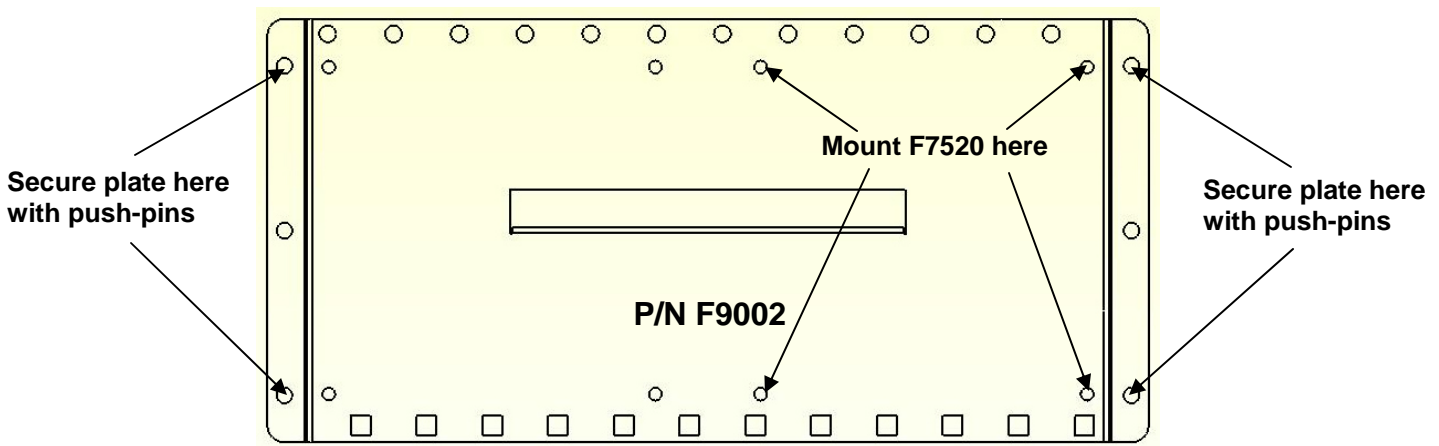
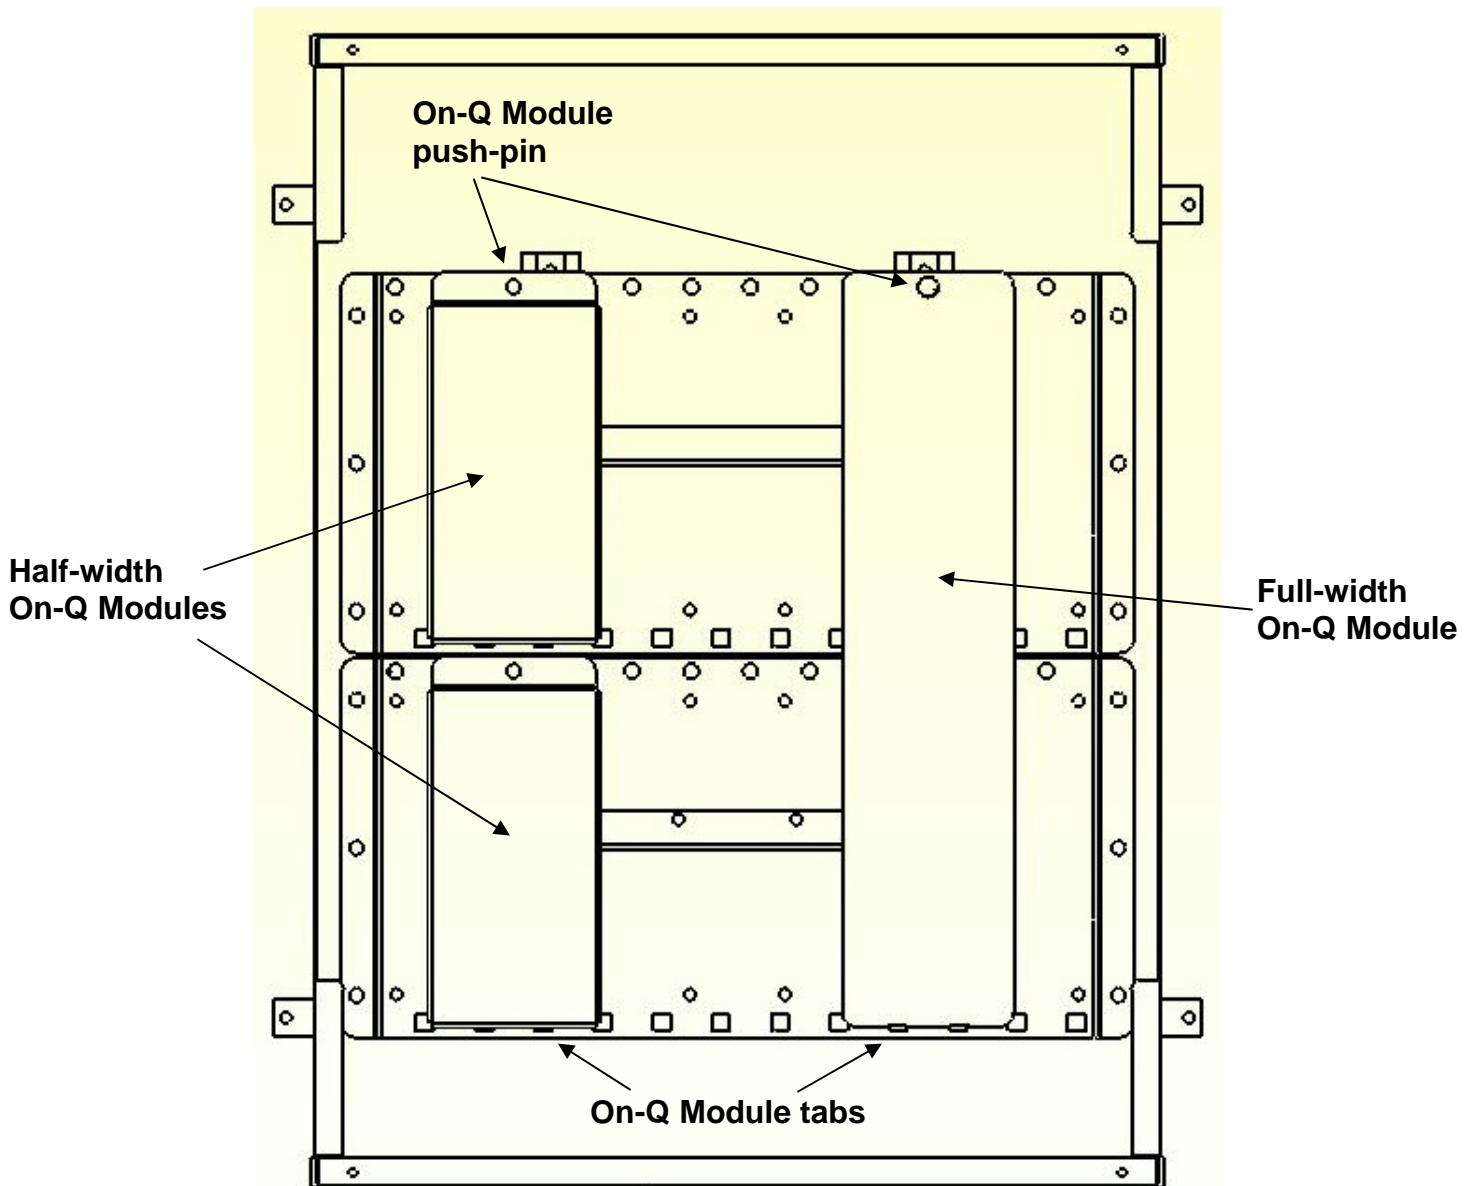

Figure 1
Figure 2
The On-Q Module to GF Mounting Plate, (see **Figure 1**) is designed to be mounted in a Foxbox or Titan enclosure with multiple push-pins (typically at each corner). On-Q half-width modules can then be mounted in a vertical orientation (90° counter-clockwise rotation), inserting the tabs into the square holes along the bottom edge of the plate and using the locking tab/s (push-pin/s) at the other end of the module in the round holes along the top edge of the plate. If full width On-Q modules need to be supported, an additional plate may be mounted directly above or below the first plate (see **Figure 2**).
- Align the holes on the outer flanges of the plate with those in the enclosure and use push-pins to secure the plate to the enclosure (see **Figure 1**).
- To attach On-Q modules, align the two stationary tabs on the module with the square slots on the mounting plate (see **Figure 2**).
- d. Rotate the module and insert the built in locking tab (push-pin) on the module into the corresponding hole on the top edge of the mounting plate, pushing in until it snaps into place (see **Figure 2**).